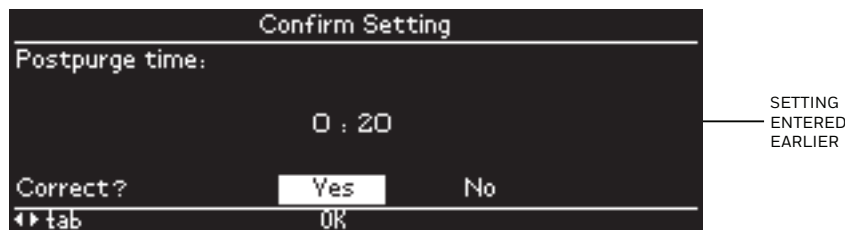

Fig. 74. Confirm postpurge time
- Valve Proving (VP) when confirmation (when BC model supports valve proving) – see next figure
- Postpurge time confirmation (when BC model doesn’t support valve proving) – see Fig. 74
- Valve Proving (VP) time confirmation (VP when setting is not disabled) – see next figure
- Postpurge time confirmation (VP when setting is disabled *and* postpurge time has been configured) – see Fig. 74